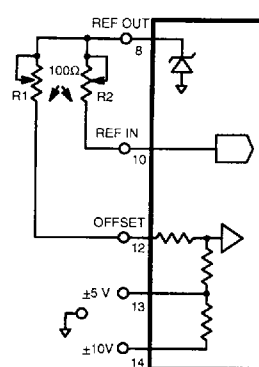

Figure 4. Bipolar Operation with Trim Adjustments
1. To set  $\pm$  Fullscale: Connect MP674 as shown in *Figure 4*. Apply -4.9988 V to pin 13 (or -9.9976 V to pin 14) and adjust R1 for flicker between output codes 0000 0000 0000 and 0000 0000 0001. Then apply +4.9963 V to pin 13 (or +9.9927 V to pin 14) and adjust R2 for flicker between output codes 1111 1111 1110 and 1111 1111 1111.
2. To set Zero Transition and Gain: Connect MP674 as shown in *Figure 4*. Apply 0.0000V to pin 13 (for +5 V fullscale applications) or pin 14 (for +10 V fullscale systems) and adjust R1 until the output code flickers between 0111 1111 1111 and 1000 0000 0000. Then apply +4.9963 V to pin 13 (or +9.9927 V to pin 14) and adjust R2 for flicker between output codes 1111 1111 1111 and 1111 1111 1110.